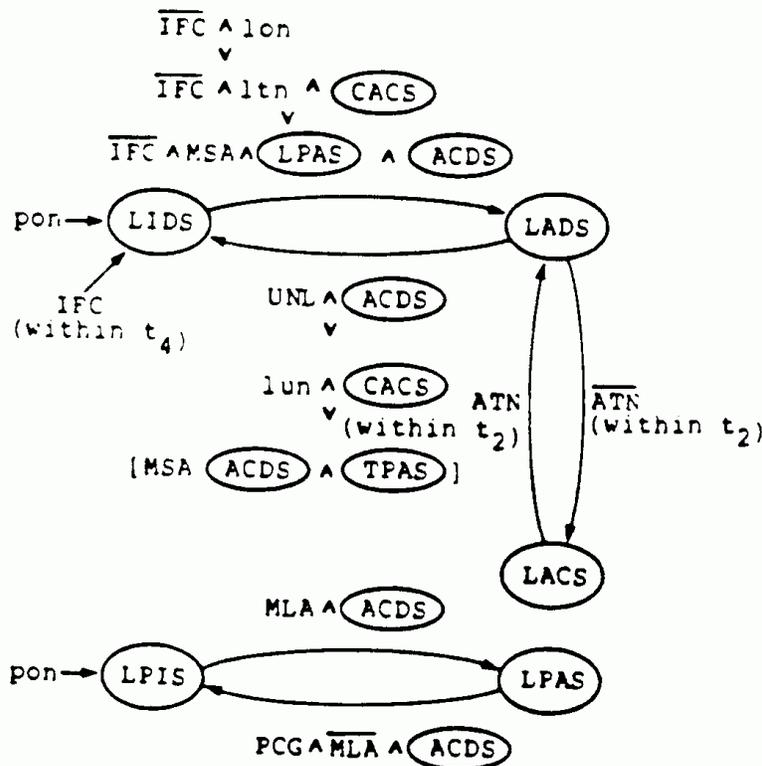

Figure 4-4. Listener Extended state diagram
The Listener Extended function (LE3) defines two additional states — LPIS (Listener Primary Idle state), and LPAS (Listener Primary Addressed state). The Listener Extended state diagram is shown in Figure 4-4.
When configured in this mode, the TLC operates according to the Listener Extended (LE) state diagram (refer to Figure 4-4).